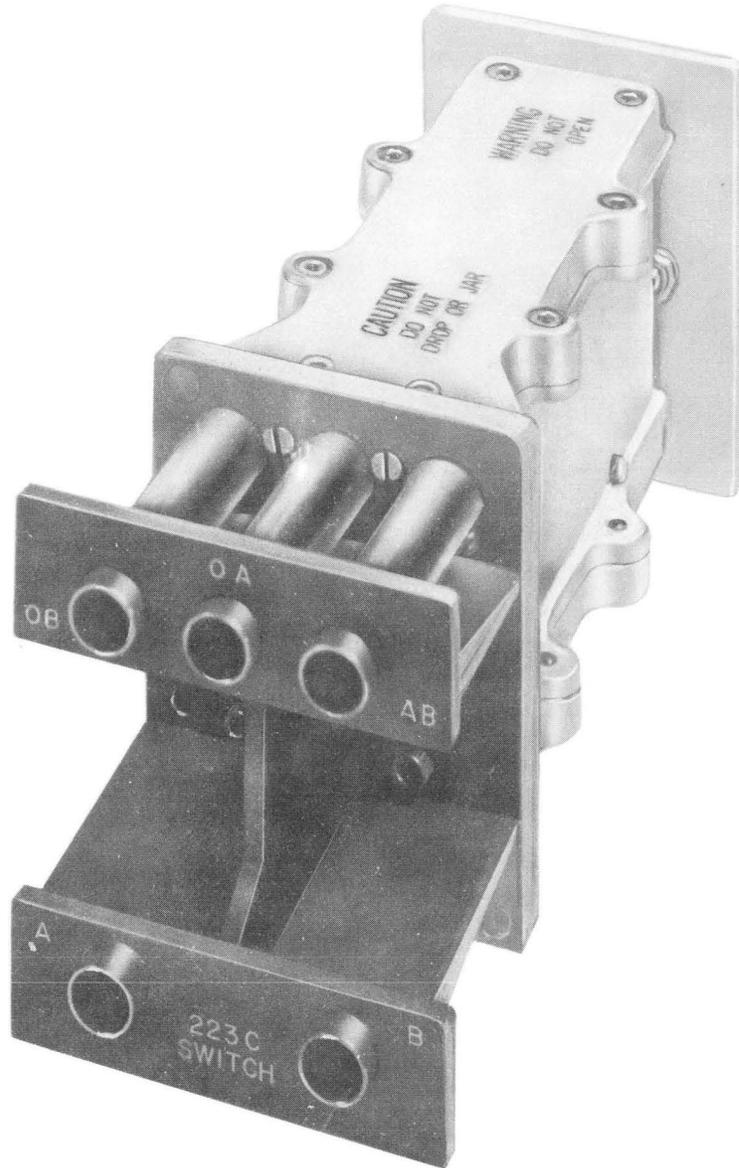

Fig. 1—223C Coaxial Switch, Assembled
1.03 The 223-type switch (Fig. 1, 2, 3, and 4) is a high-speed, electromagnetically operated, coaxial-type transfer switch used for switching 75-ohm lines at high frequencies. The 223A, 223B, and 223C switches are reed-type mercury switches, while the 223D and 223E switches are the dry-reed, sealed contact type. The D and E switches are similar although the D switch is designed to operate at 60 Vdc and the E switch at 24 Vdc.